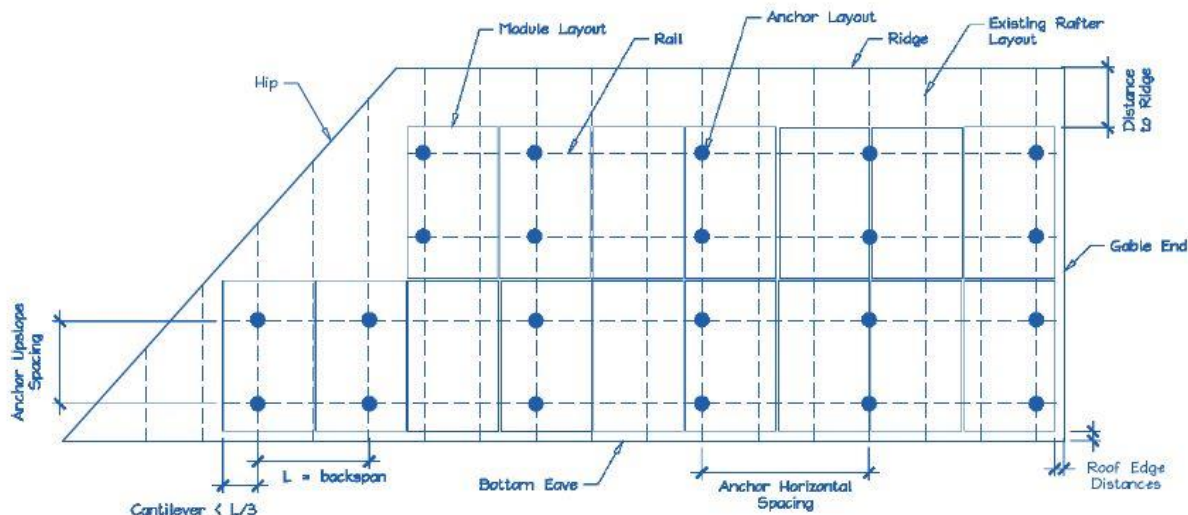

Figure 2. Sample Solar Panel Array and Anchor Layout Diagram (Roof Plan).
E. Is a roof plan of the module and anchor layout attached? (see Figure 2)
- 1) Proposed anchor horizontal spacing (see Figure 2): _____ ' ft - _____ "in
1. Anchors are also known as "stand-offs," "feet," "mounts" or "points of attachment." Horizontal anchor spacing is also known as "cross-slope" or "east-west" anchor spacing (see Figure 2).